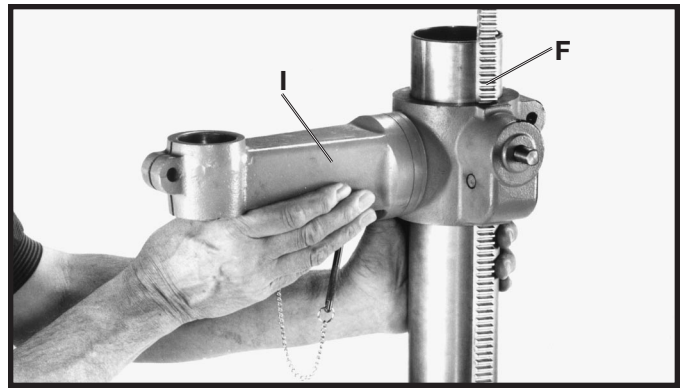
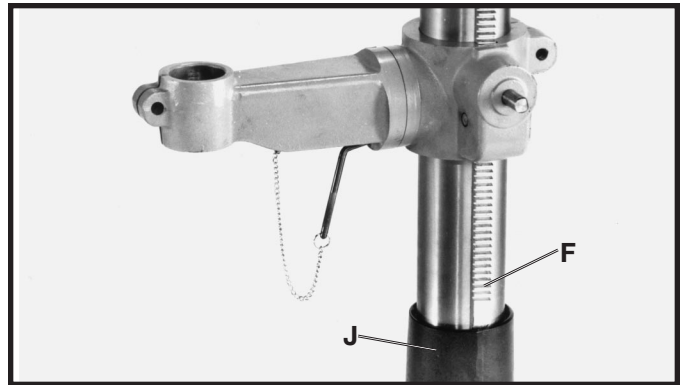

Fig. 7
Fig. 8
4. Slide raising rack (F) Fig. 7 and table bracket (I) onto drill press column, as shown. Make sure bottom of raising rack (F) Fig. 8, is engaged with flange (J) on drill press base.